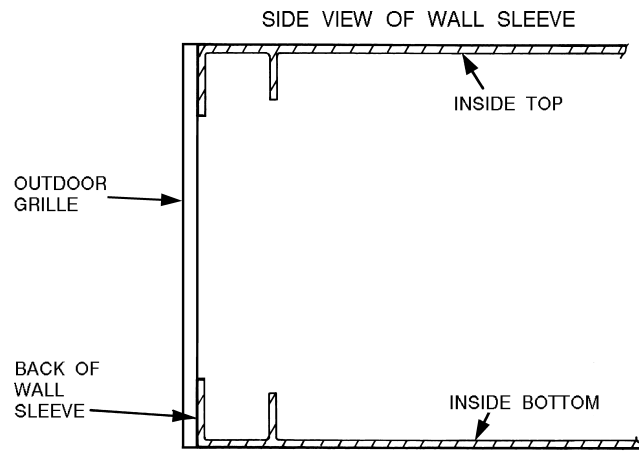

Fig. 4 — Grille Secured in Wall Sleeve
3. While holding the grille, line up and insert the 4 pre-set screws into the respective keyhole slots on rear side flanges of sleeve. See Fig. 4 and 5.